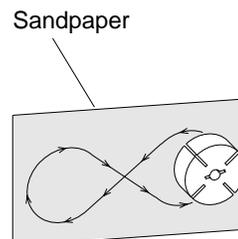

Figure 27 - Sanding Rotor
14. Place fine grade sandpaper (600 grit) on flat surface. Sand rotor lightly in "figure 8" motion four times (see Figure 27).